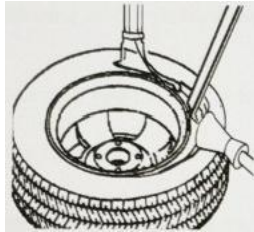

Fig 13
-Insert the crowbar into the pressing roller and M/D head(Fig.13),and place the pressing block on the tyre at the opposite side(Fig 12).